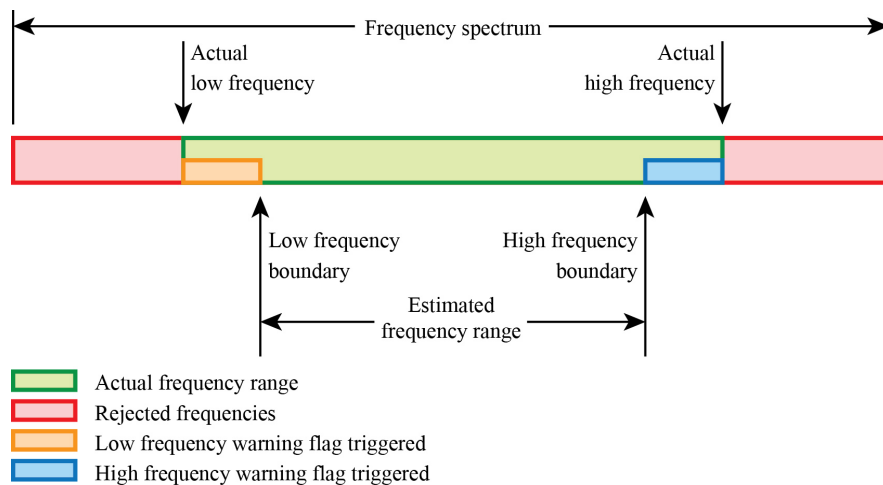

FIGURE 7-8. Relationship of Estimated- and Actual-frequency ranges and Frequency Warning Flags
- When a resonant frequency falls between the estimated- and actual-frequency ranges. This may indicate a change in the output of a sensor before the output moves outside the actual-frequency range. See FIGURE 7-8, *Relationship of Estimated- and Actual-frequency ranges and Frequency Warning Flags* (p. 32).